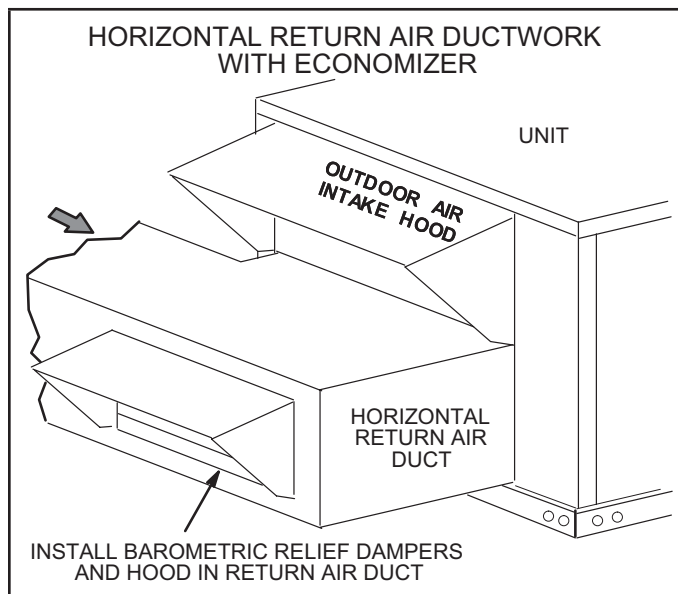

FIGURE 4
- 5 - Install return air duct beneath outdoor air intake. See FIGURE 4. Install barometric relief damper in lower hood and install a ductwork as shown in FIGURE 4.